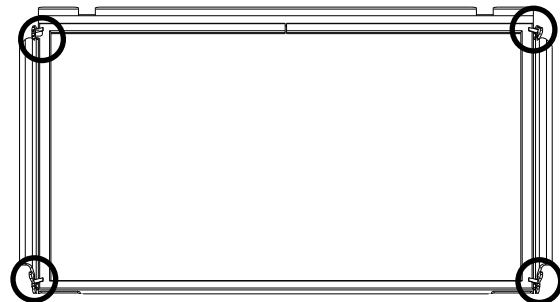

Figure 12.1. Bend the retainer tabs back enough to release the glass panel.
5. The glass panel is held in place by four tabs on the frame. Use a screwdriver or small pliers to pry these up enough to release the glass panel. See fig. 12.1.